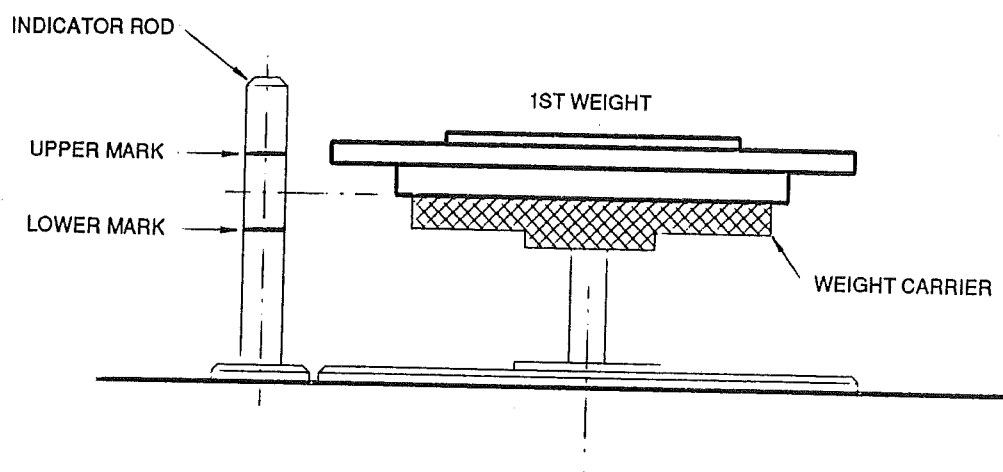

Fig 3 Position of floating weights for correct reading
16.6 Apply pressure by turning the capstan clockwise until the weight floats with the lower edge of the first weight aligned between the upper and lower red marks on the indicator rod. (see fig 3)
17.7 Apply pressure by turning the capstan clockwise until the weight stack floats with the lower edge of the first weight aligned between the upper and lower red marks on the indicator (see fig 3).